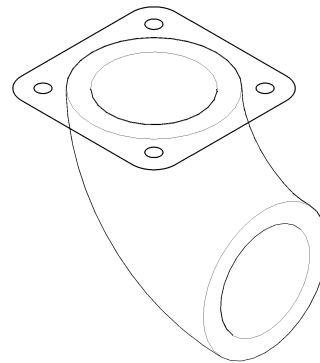

Figure 26-129 Location of the sketch
13. Change the view to isometric. The model after drawing the sketch and turning off the dimension is shown in Figure 26-129.